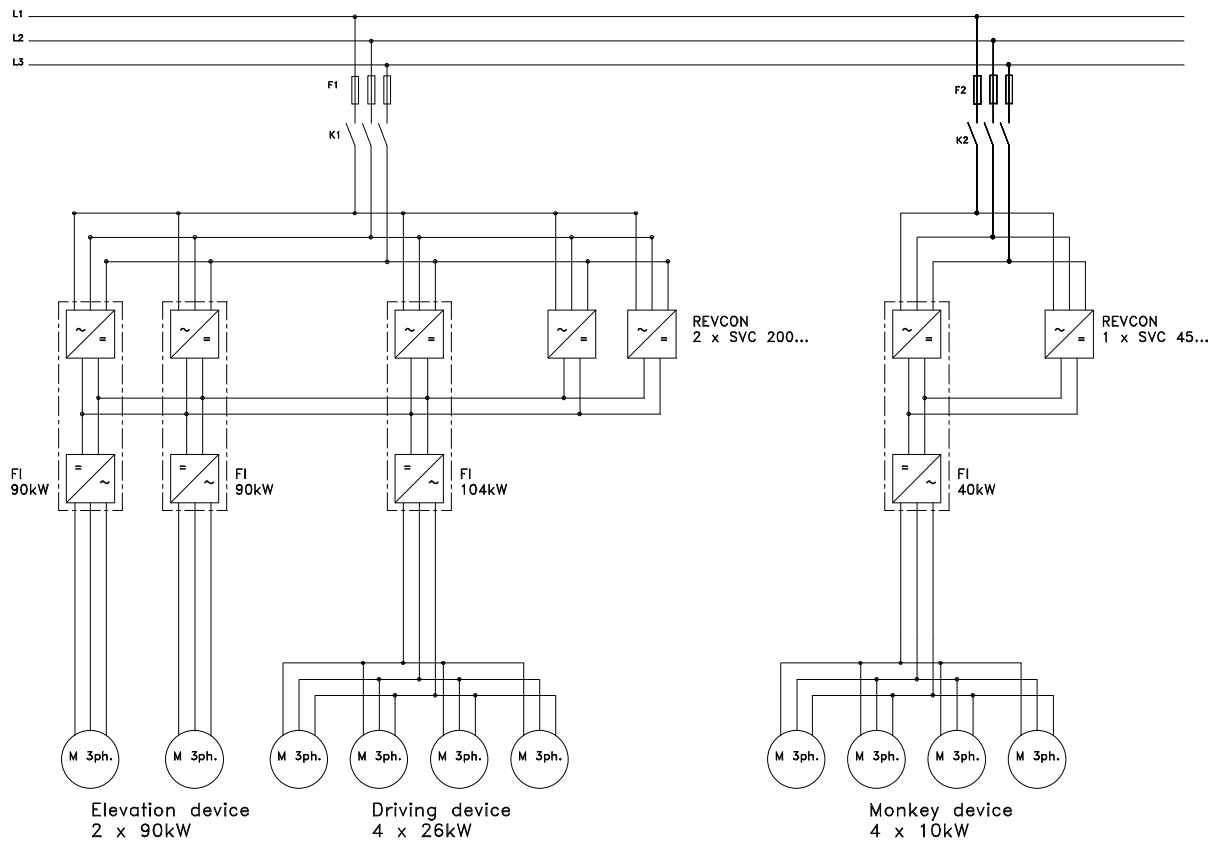

figure 4.5.1
7. At these terminals one ore more controllers (even with different power ratings) may be attached, like it shown in figure 4.5.1. Even if several controllers are attached, the wires have to be as **short and low impedance** as possible!
Within greater plants several power feedback units may be coupled. Figure 4.5.1 shows an example of a crane system plant with some possible combinations.